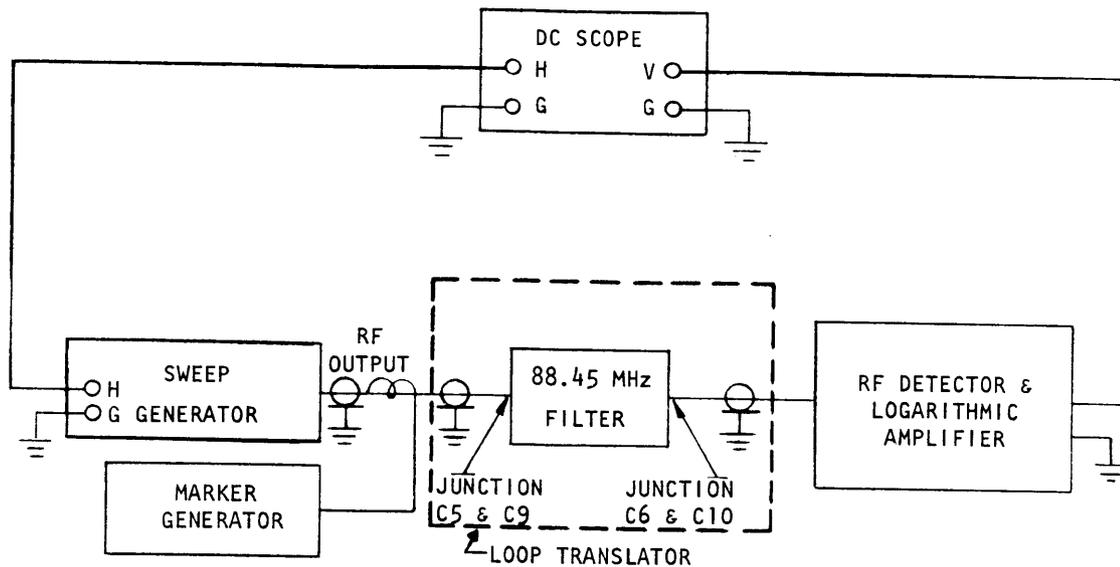
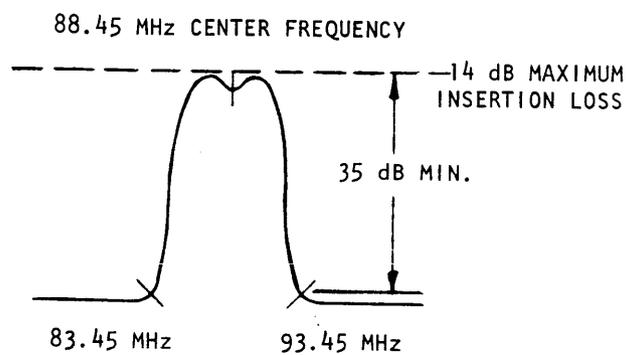

FIGURE 6.1 TEST SETUP FOR 88.45 MHz FILTER ALIGNMENT
FIGURE 6.2 RESPONSE OF 88.45 MHz FILTER
- (1) Use extender card. Connect voltmeter across C31. Select R21 until voltmeter indicates 21 ± 0.5 Volts dc. This level corresponds to 7 mA of drain current through Q5.
- (2) Use extender card. Connect high impedance probe of RF voltmeter (Boonton 91 CA recommended) between junction of C27, T1 and ground. Adjust L8 for maximum output, which should be greater than 500 mVrms.
- (3) The alignment of the 4-pole 88.45 MHz bandpass filter must be done with a sweep generator that has 50 ohm output terminals. The green output lead from T1 must be disconnected and the A1 mixer must be removed to gain access to the filter. Connect equipment according to Figure 6.1. The filter should be tuned according to Figure 6.2. (The insertion loss should be less than 14 dB.)
- (4) The response should be 35 dB minimum down at 93.45 and 83.45 MHz (reading referenced to 0 dB = insertion loss level). Note that this particular measurement should be performed with the sweep generator set for CW and an RF voltmeter with 50 ohm termination (Boonton 91 CA recommended) at the output of the filters.
- (5) Carefully reconnect T1 output transformer green lead and mixer A1.